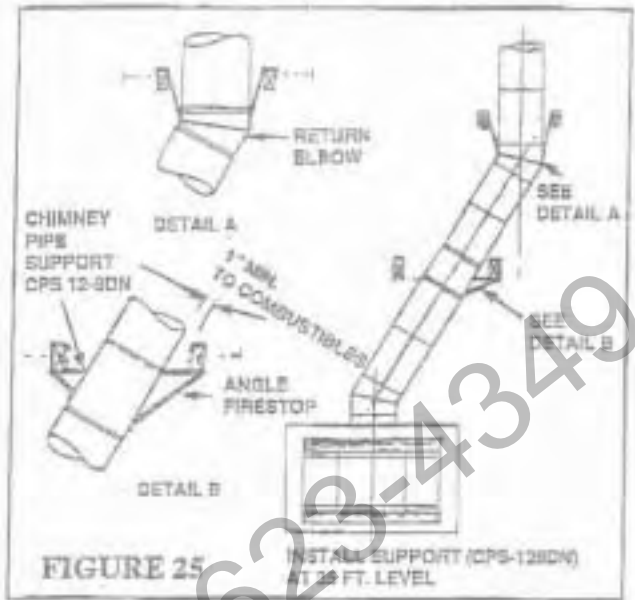

FIGURE 25 INSTALL SUPPORT (CPS-12RDW) AT 24 FT. LEVEL
2. Chimney weight above offset rests on return elbow. Straps must be securely nailed to rafters or joists (See Figures 25 & 26).